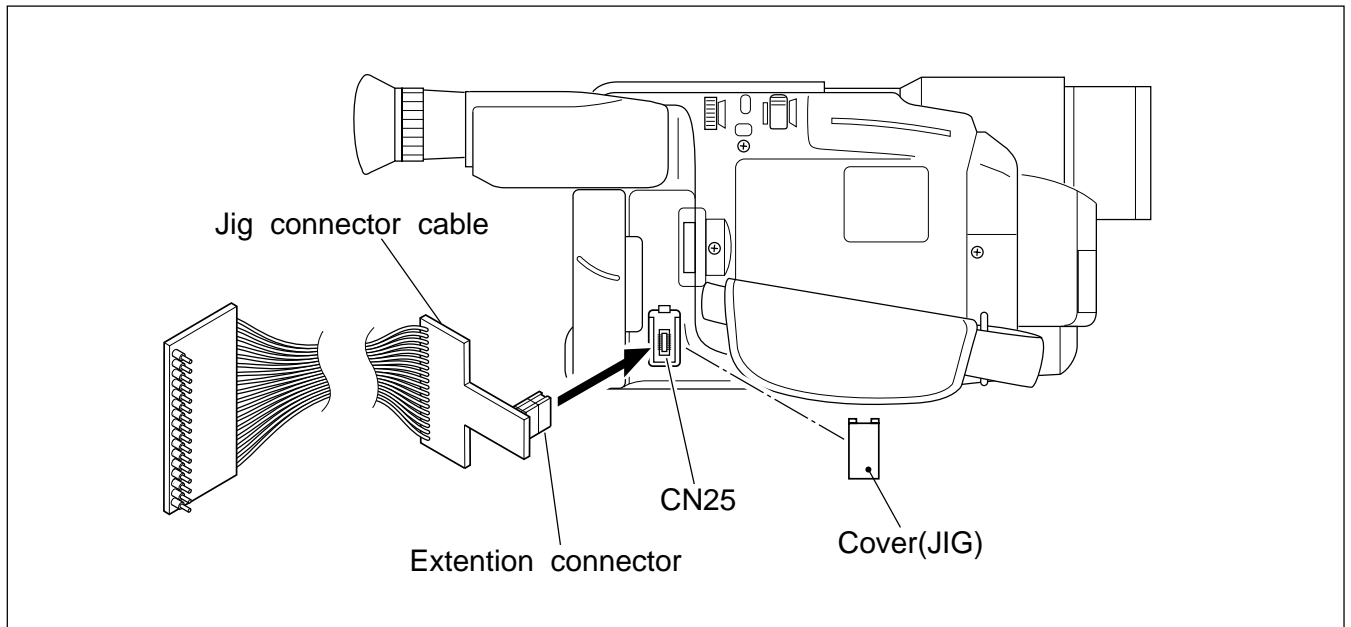

Fig. 2-6-1 Jig connector cable connection
1. Remove the Cover (JIG) shown on Fig. 2-6-1 (Page 2-10).
2. Connect the jig connector cable to CN25 on the MAIN board as shown on Fig. 2-6-1 (Page 2-10).